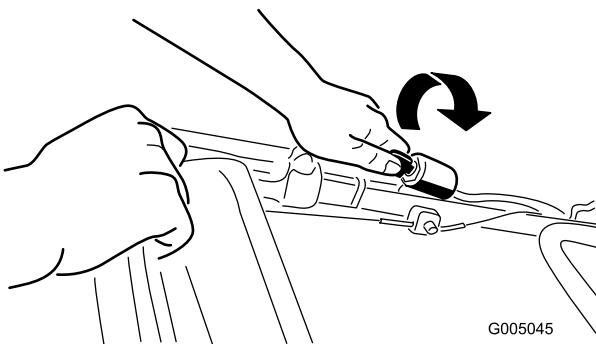
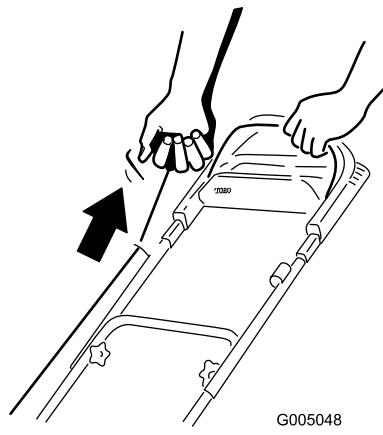

Figure 15
Figure 16
2. Turn the ignition key (Figure 15) (model 20656 only) or pull the recoil start handle (Figure 16).